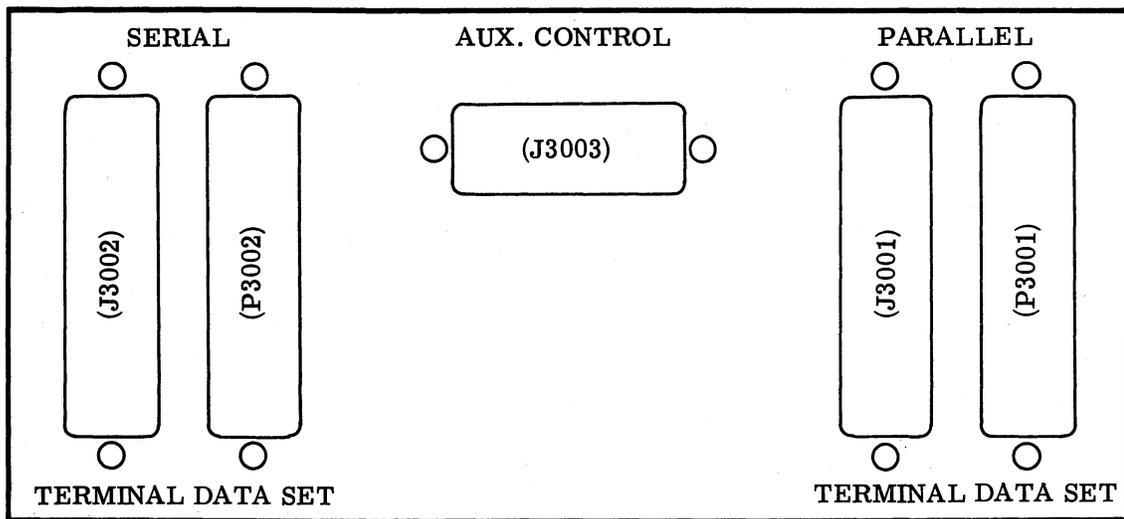

Figure 3 - Interface Connector Panel
(b) Using a strapping wire, connect terminals 14 and 15 on the auxiliary control receptacle, J3003 (Figure 3). Approximately 200 ms after making contact, the code disc should rotate once and then stop. This cycle should reoccur each time continuity is established between terminals 14 and 15.
4.01 The interface connections are made at the rear of the discrete calling generator (Figure 3).